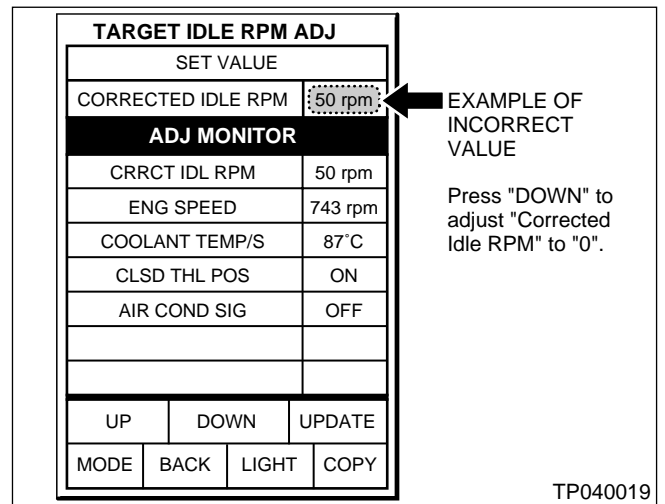

Figure 8
3. Check the CORRECTED IDLE RPM (see Figure 8):